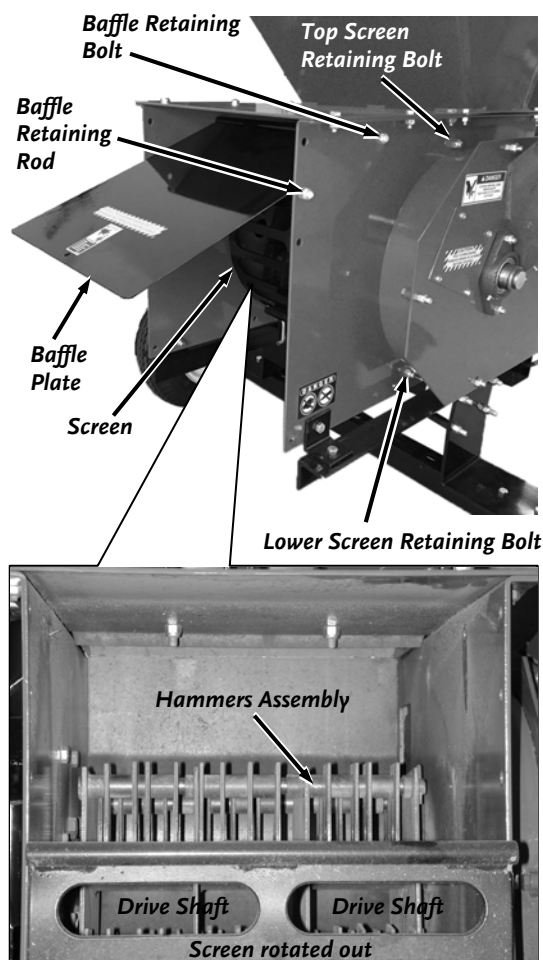

Figure 12
1. Remove the Cotter Pin at the end of the Baffle Retaining Rod and remove the Rod (**Figure 12**).